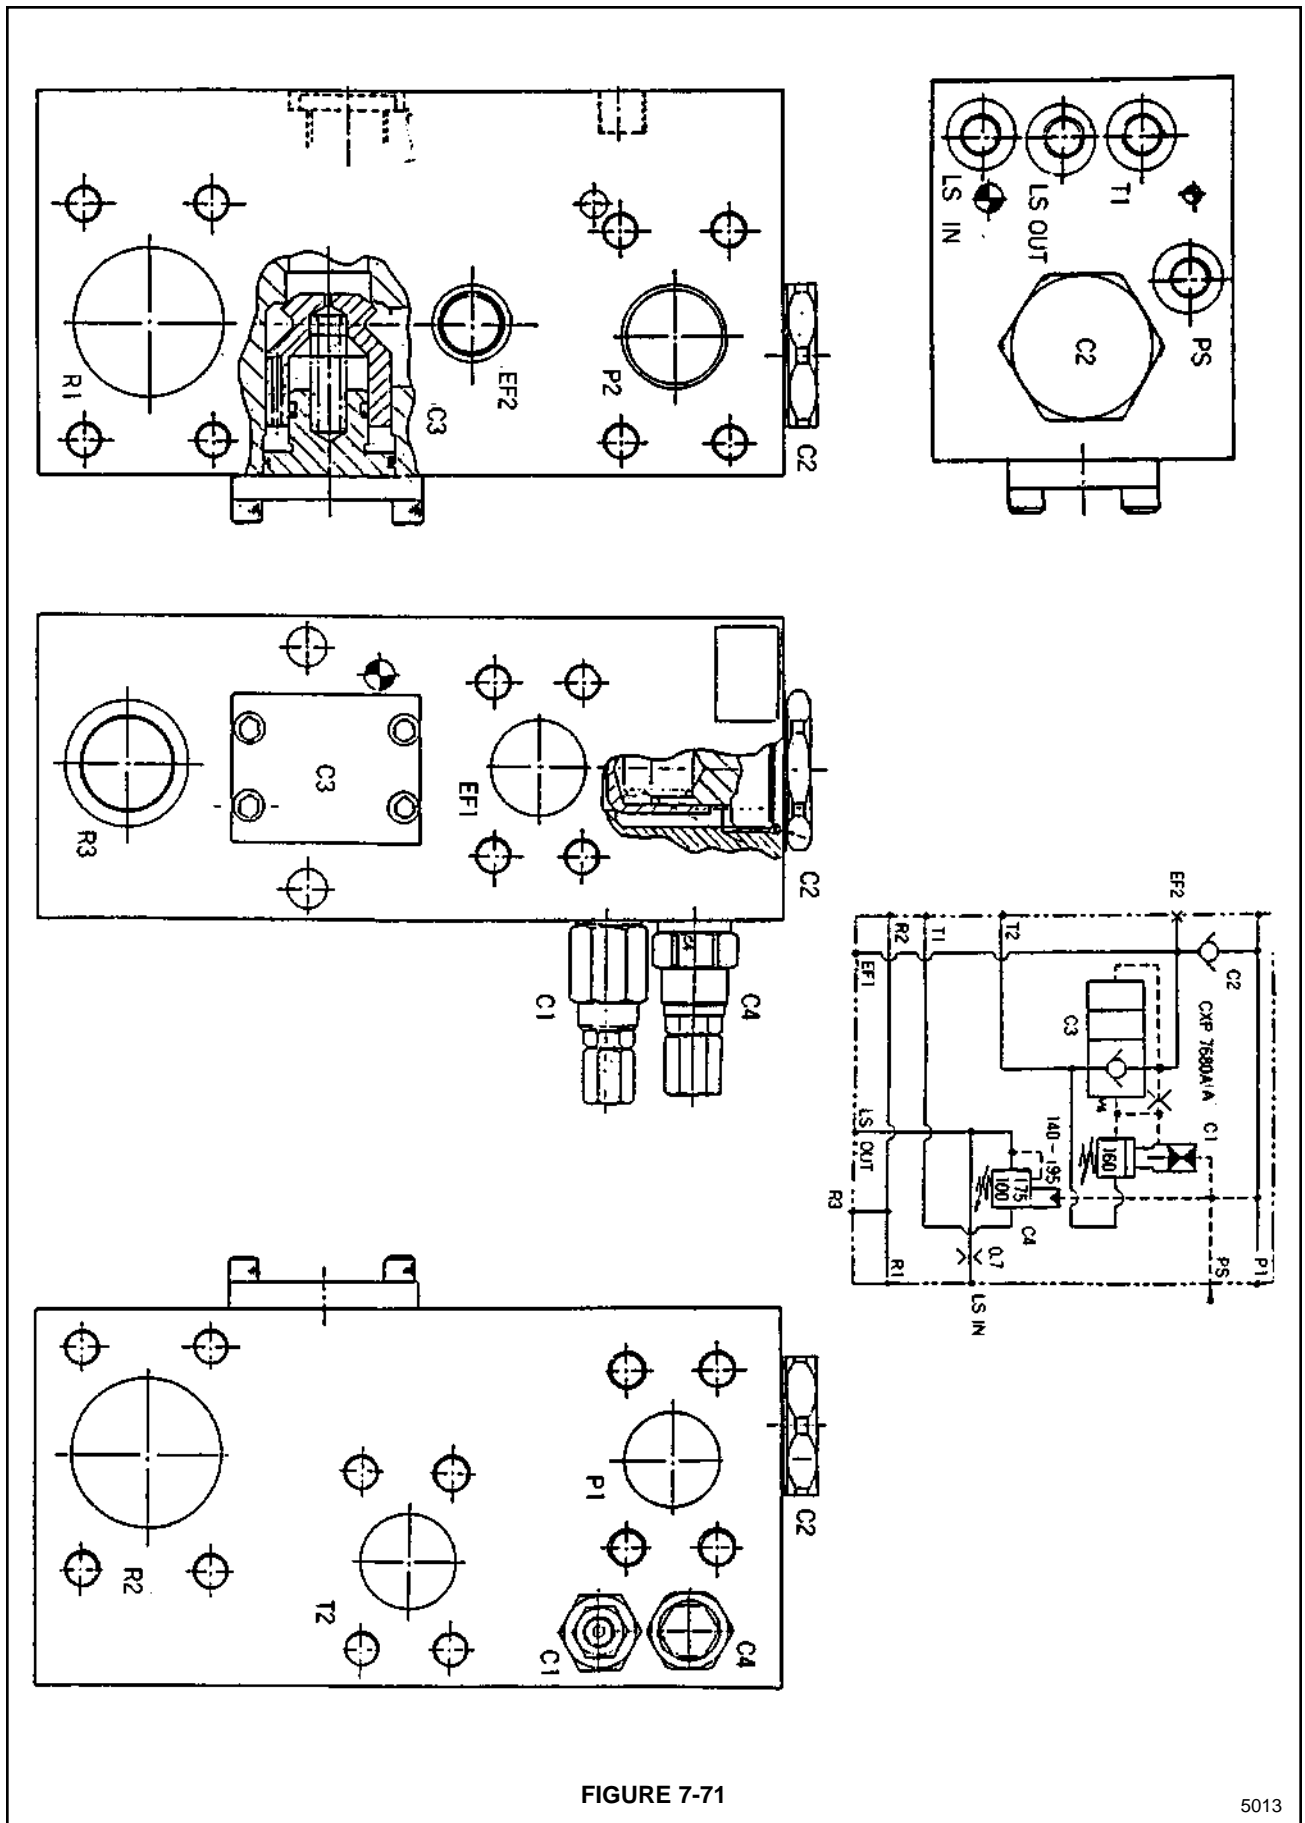

FIGURE 7-71
The pressure at port B of C2 is also present at port C of C2. When pressure in the main pump output line is above 160 kg/cm², this pressure forces spool (5) of C1 to move against the force of spring (6), which allows the oil in chamber C of C2 to flow through port D of C1 and back to tank. When oil in chamber C flows to tank through port D, the pressure in chamber C drops due to the venturi effect of the orifice (7) in check spool (4). This allows the pressure at B to lift check spool (4) off its seat. This allows the oil that is flowing into port B to flow past check spool (4) to tank. This is the output from the steering pump that is being directed back to tank. Figure 7-71 shows the cartridge and port location for the unloading valve.